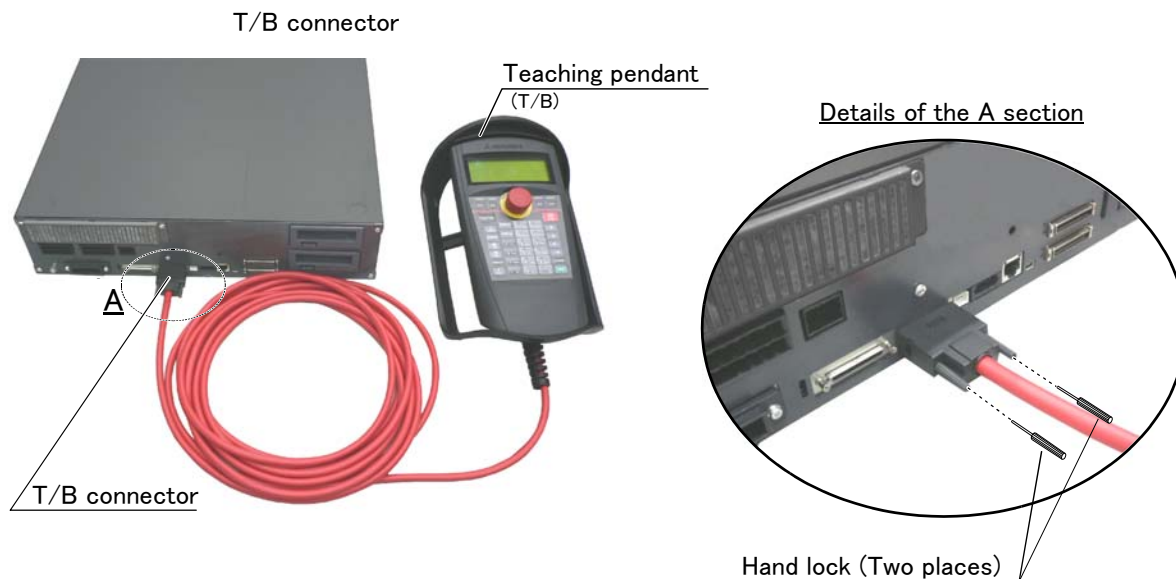

Fig. 2-13 : Installing and removing the T/B (CR751controller)
- 2) Connect the T/B connector to the controller's T/B connector. Make sure to fix it securely by fastening the hand locks (in 2 places), as shown in Fig. 2-13.